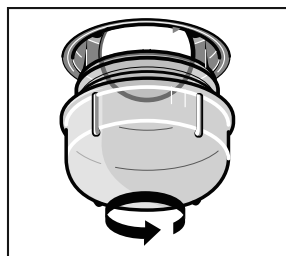

Figure 6
2. Unscrew the covering glass in anti-clockwise direction. (Figure 6)